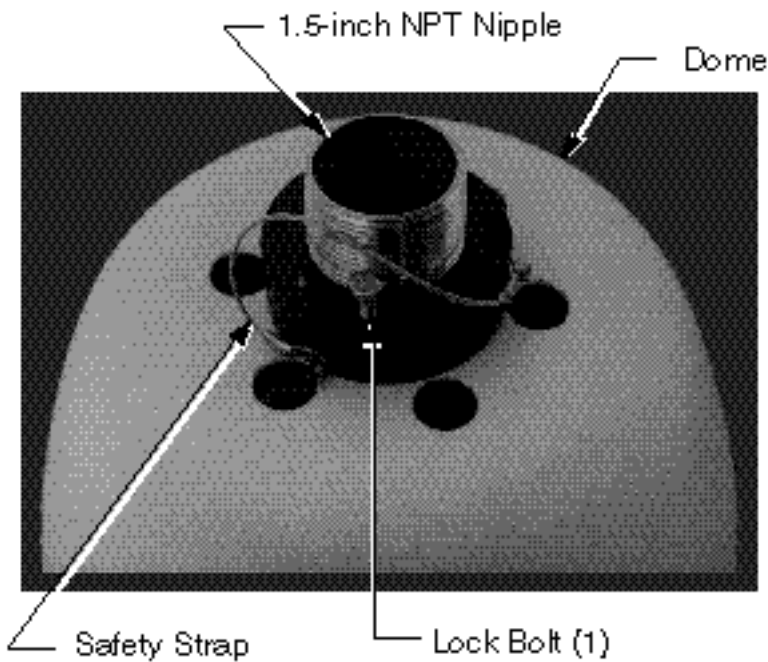

Figure 8. Quick Disconnect Assembly
2.2.1 PEDD (Pendant Mount). See figure 8.